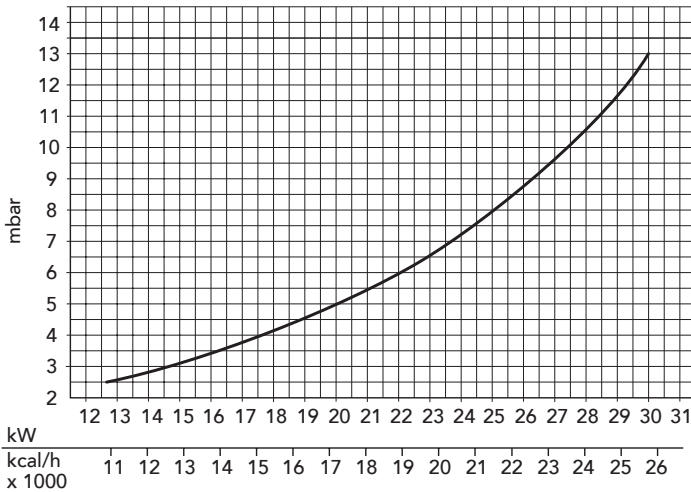

Fig. 4
**N.B. - The gas pressures at the burner and gas flows during the central heating phase given in the table refer to nominal boiler output. To reduce this output (where necessary), gas pressure must be reduced until the required output level is reached (see figures 4 and 5).**
To adjust boiler heat input (thus also regulating heat output to the central heating water) simply adjust the main burner via the electronic control board (fig. 4 and 5 and see paragraph 5.04 page 23).